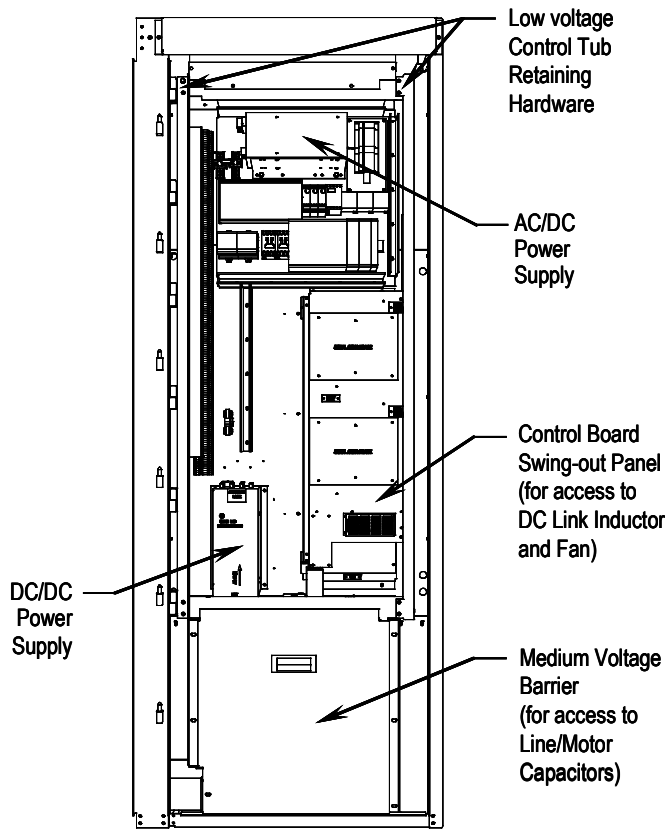

Figure 6.41 – DC Link and Fan cabinet with low voltage control tub shown
2. Remove medium voltage barrier below the low voltage panel to access capacitor. (See Figure 6.41).